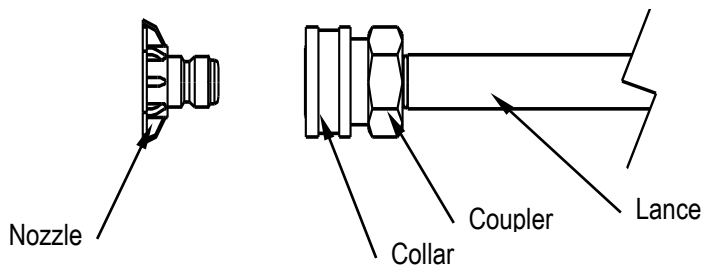

Figure 10a
2. To install the nozzle, pull the collar back and twist the nozzle firmly into the coupler on the end of the wand. (Fig. 10a)